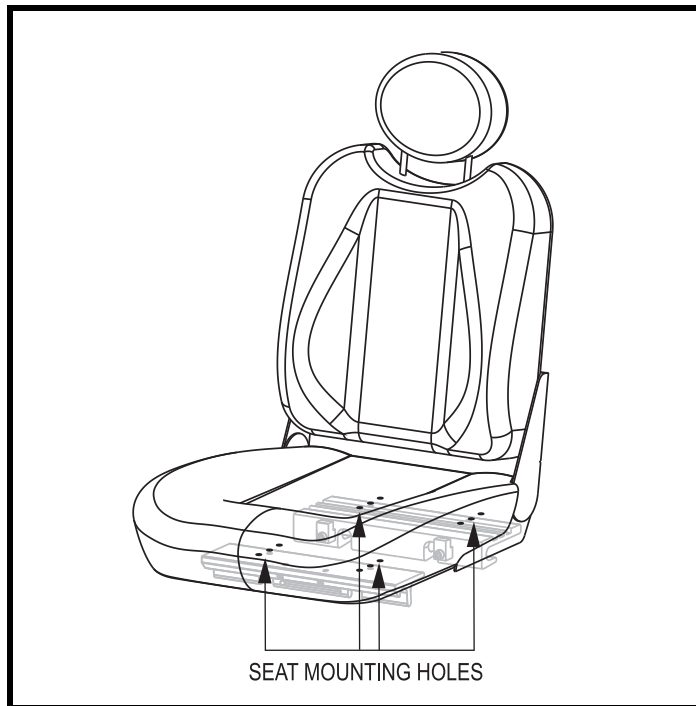

Figure 15. Seat Position Adjustment
4. Reposition the extrusions on a different set of mounting holes. You must move both extrusions the same number of holes either forward or rearwards. See figure 15.